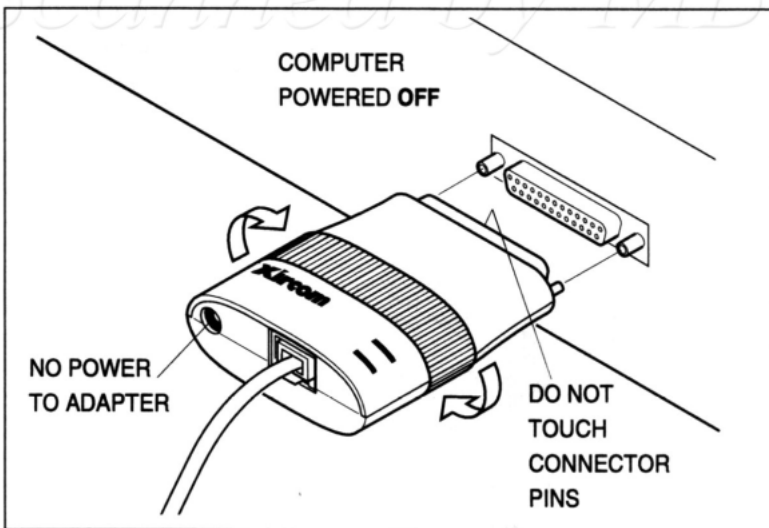

Figure 5. Connecting the Adapter to the Parallel Port on the Computer
3. Rotate the red band ("tractor grip") on the Adapter clockwise until the screws are firmly secured. Refer to Figure 5. When the screws are tight, the red band will "click" as you rotate it. (To unscrew the screws, rotate the band counterclockwise.)